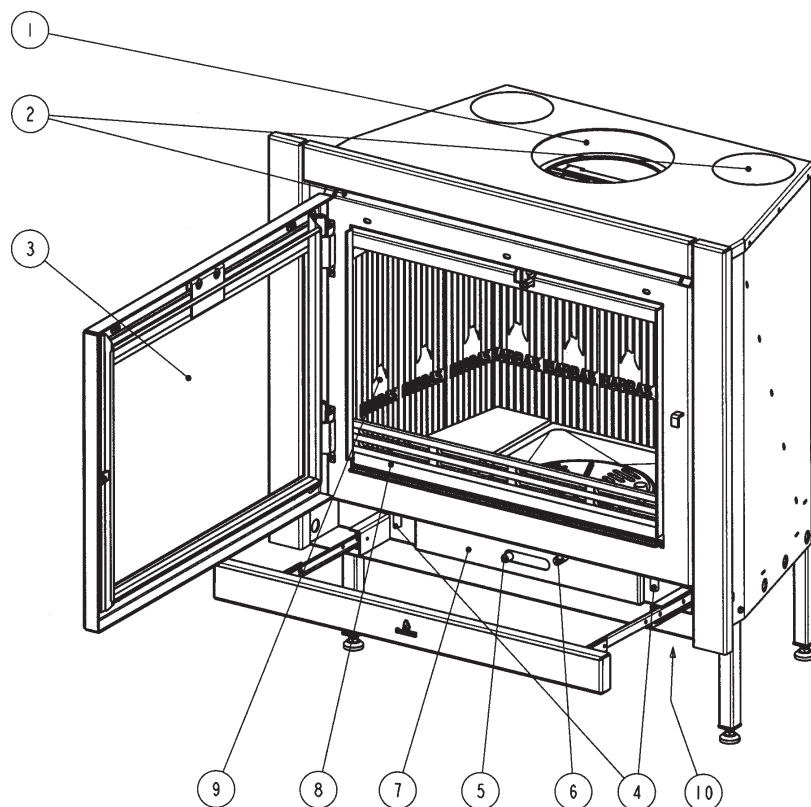

Figure 1: Operation
6.2. GETTING THE FIRE GOING (Figure 1 and 2)